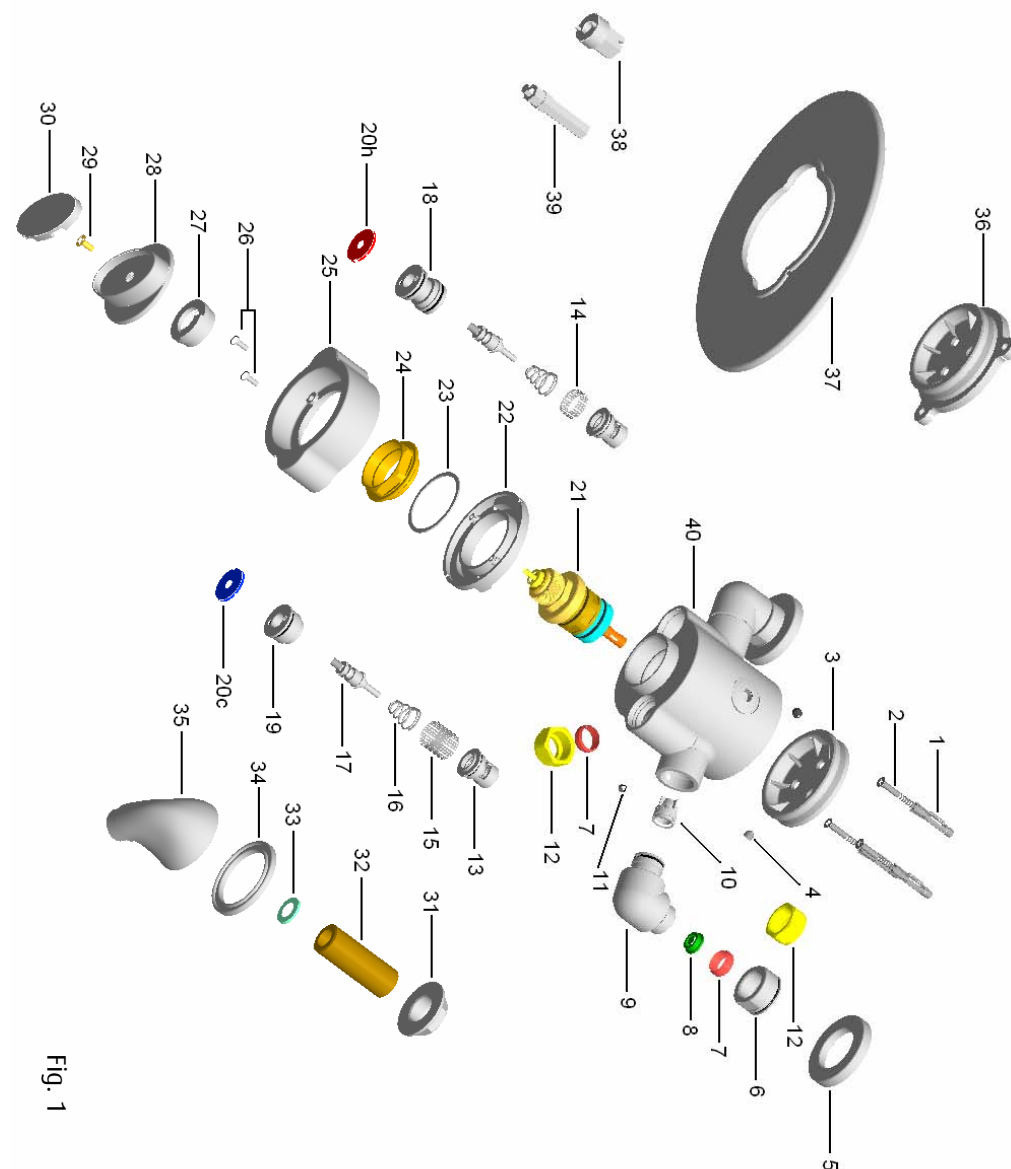

Fig. 1
4.1 Pre-Installation (See Fig. 1)